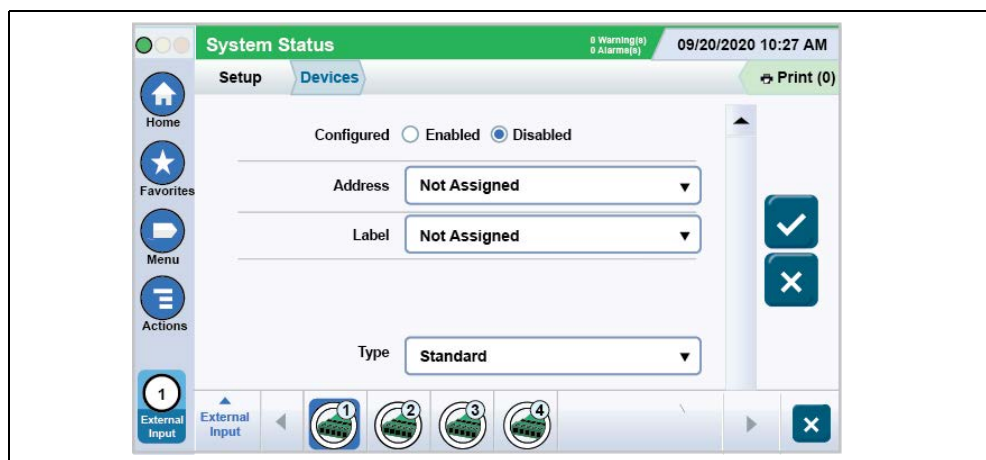

Figure 31. TLS-4xx External Input Setup Screen For FCC Switch Contact
1. Go to the **Menu>Setup>Devices** screen, open the Setup Devices Index and touch the **External Input** button to open the External Input setup screen (Figure 31).
1. On the External Input screen (Figure 31), select the External Input you want to configure for the diesel pump switch hook.